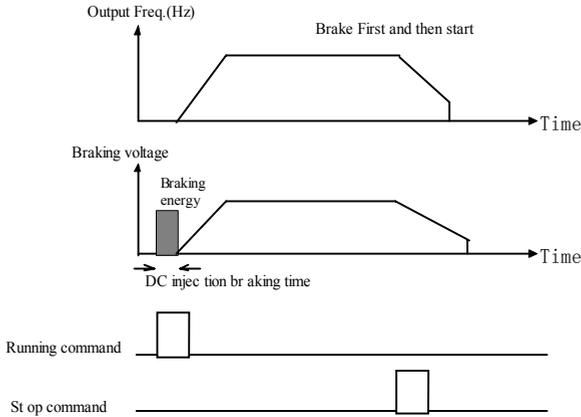

Fig. 5-1-1 Brake First and then start
- ◆ Brake first and then start: Ac drive adds some DC injection braking power to load first, and then startup. As shown in Fig. 5-1-1. Starting mode 1 is suitable for small inertia load which is running forward or reverse while the ac drive is in stop state, such as fan load. DC injection braking parameters refer to P1.03 and P1.04.
P1.03 and P1.04 are only active when P1.00 is set to 1 (start mode 1 is selected), as shown in Fig. 5-1-1.
Refer to Fig. 5-1-1, the ac drive outputs DC injection braking current at start (P1.03), during DC injection braking time at start.